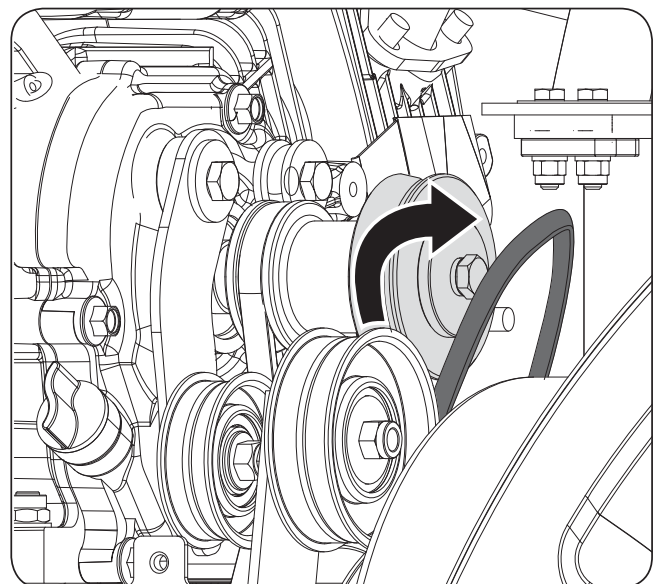

Figure 20b
3. Roll the auger belt(s) off the engine pulley. (See **Figure 20b**)
- a. Roll the auger belt off the engine pulley. (See **Figure 20b**)